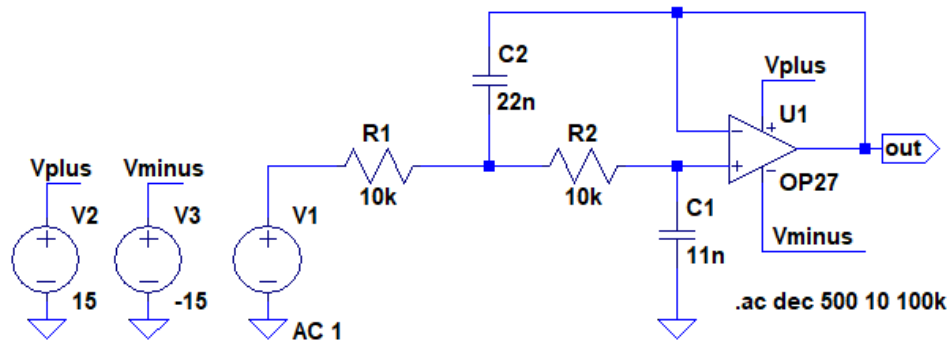

Fig. 4. Scheme of the low-pass filter.
1. Draw the LPF circuit according to Figure 4.
- low pass filter (BPF) from Fig. 4,